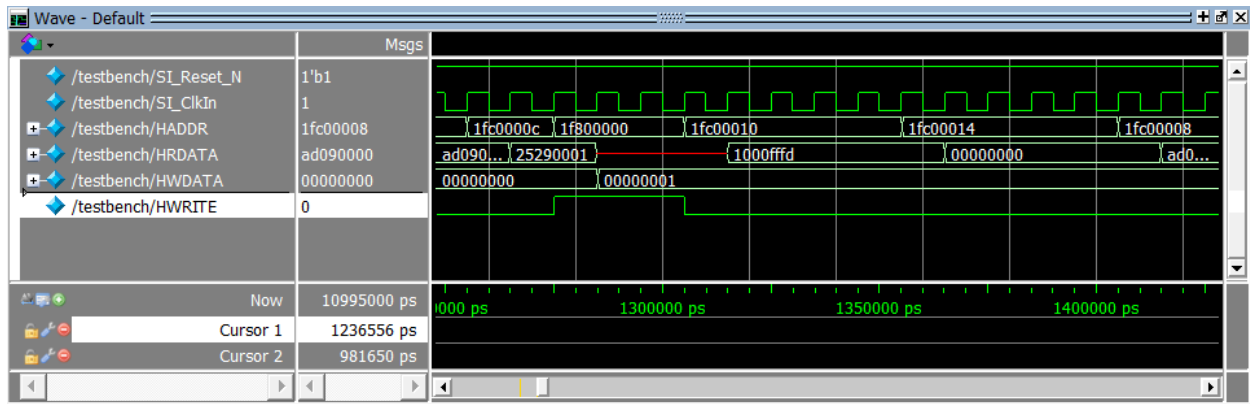

Figure 12. Memory write and branch shown in simulation waveforms
The processor continues fetching instructions. The store word instruction (`sw $9, 0($8)` = 0xad090000) is located at physical address 0x1fc00008. This instruction will write to address 0xbf800000 (physical address 0x1f800000). Notice that the next instruction (`addiu $9, $9, 1` = 0x25290001) is fetched from address 0x1fc0000c before the store word's write to memory occurs. Just after the `addiu` instruction (0x25290001) appears on HRDATA, the address (HADDR) changes to 0x1f800000, the address being written by the earlier store word (`sw`) instruction, and HWRITE asserts, as shown in Figure 12. The write to memory completes one cycle later as HWDATA becomes the value to be written (1). Next, the processor fetches the branch and `nop` instructions (0x1000fffd and 0x00000000, located at physical addresses 0x1fc00010 and 0x1fc00014) and then loops back to the `sw` instruction at address 0x1fc00008. You can follow the waveform as it loops back, repeatedly fetching instructions from memory addresses 0x1fc00008-0x1fc00014 and writing incremented values to memory address 0x1f800000.